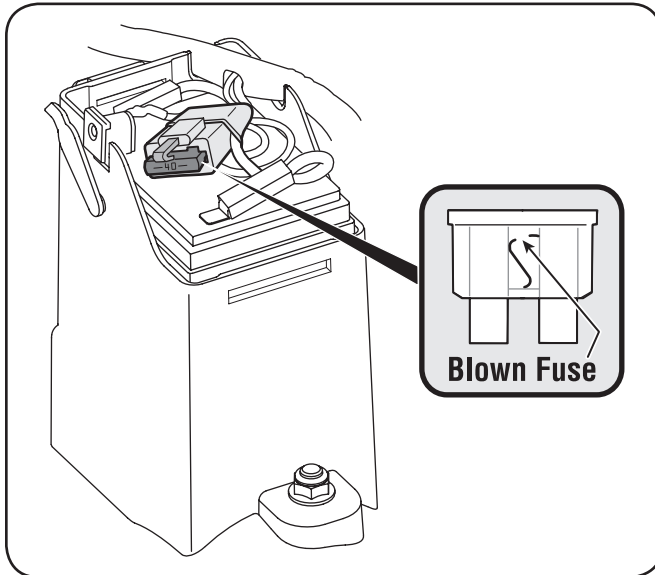

Figure 7-5
2. Remove fuse from socket and inspect as shown in Figure 7-5. If it is burned out, replace with standard automotive 40 ampere fuse.